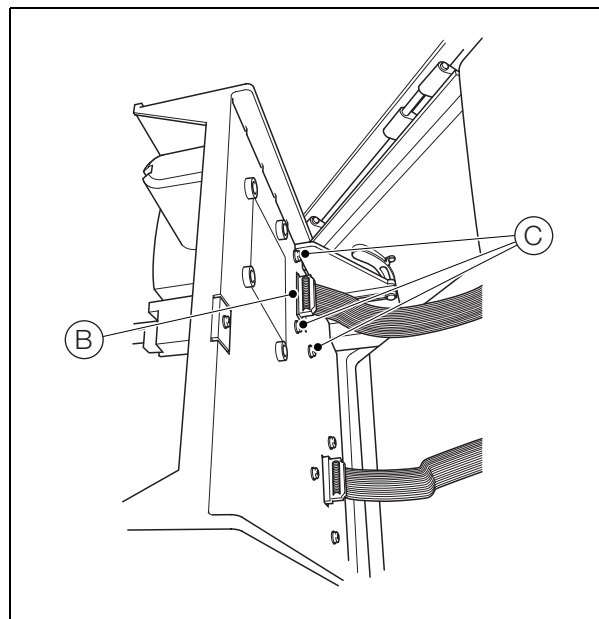

Fig. 12.9 Removing the Measurement Cell Assembly
2. Referring to Fig. 12.9:
- a. Disconnect the measurement cell ribbon cable (B) from the connector on the back of the measurement cell.
- b. Remove the four M4 screws (C) and remove the measurement cell assembly.
14. Referring to Fig. 12.9:
- a. Locate the measurement cell assembly onto the analytical section back plate and secure with the four M4 screws (C).
- b. Reconnect measurement cell ribbon cable (B).